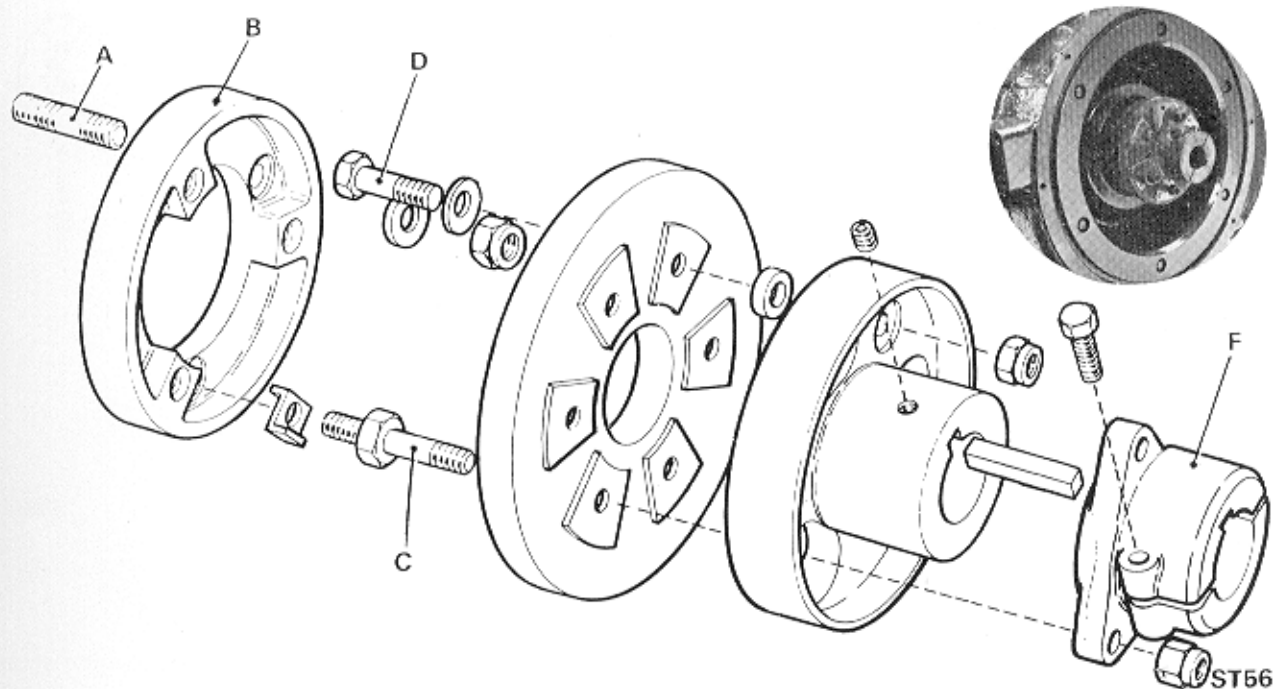

Fig. 86. Flexible Half and Split Boss Couplings—ST2/3
**FLEXIBLE HALF COUPLING (Fig. 86)**
**SPLIT BOSS COUPLING (Fig. 86, Item F)**